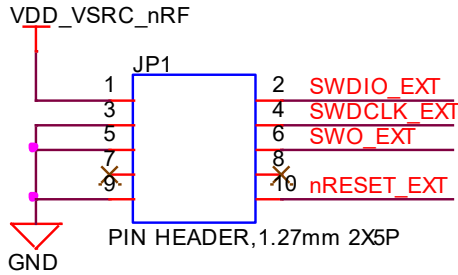

Figure 7: BL653 development board schematic
**Note:** Reference on the BL653 development board schematic (Figure 7) shows the DVK development schematic wiring only for the SWD (JTAG) connector and the BL653 module JTAG pins.
SWD (JTAG) is required because Nordic SDK applications can only be loaded using the SWED (JTAG) (*smartBASIC* firmware can be loaded using SWD (JTAG) as well as over the UART). We recommend that you use SWD (JTAG) (2-wire SWD interface) to handle future BL653 module firmware upgrades. You **must** wire out the JTAG (2-wire SWD interface) on your host design (see Figure 7, where the following four lines should be wired out – SWDIO, SWDCLK, GND, and VCC). *smartBASIC* firmware upgrades can still be performed over the BL653 UART interface, but this is slower than using the BL653 JTAG (2-wire SWD interface) – (60 seconds using UART vs. 10 seconds when using JTAG).